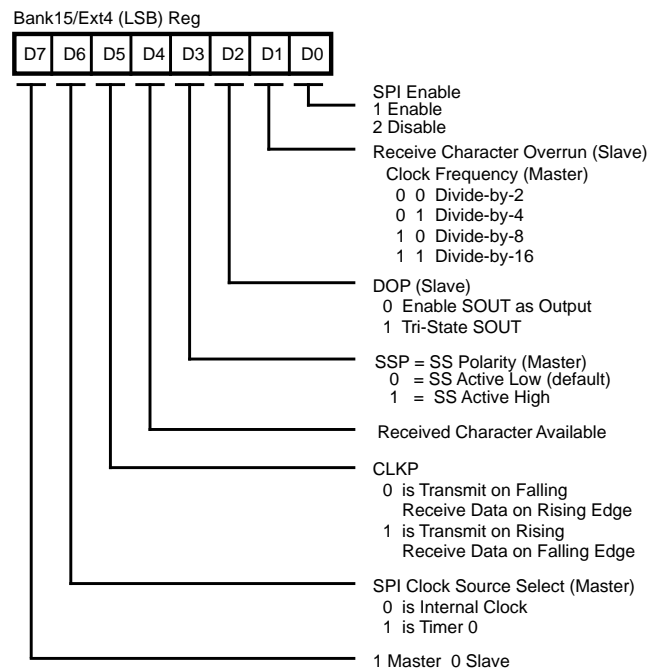

Figure 23. SPI Control Register (SCON)
**Serial Peripheral Interface (SPI).** The Z893X3 incorporates a serial peripheral interface for communication with other microcontrollers and peripherals. The SPI includes features such as Master/Slave selection. The SPI consists of two registers; SPI Control Register (SCON), SPI Receive/Buffer Register (RxBUF), and SPI Shift Register (Figure 23). **Note:** The SPI shift register and Receive/Buffer register are one in the same and are shown in Figure 41. SCON is located in bank 15/Ext4 (LSB). This register is a read/write register that controls; Master/Slave selection, SS polarity, clock source and phase selection, and error flag. Bit 0 enables/disables the SPI with the default being SPI disabled. A 1 in this location enables the SPI, and a 0 disables the SPI.